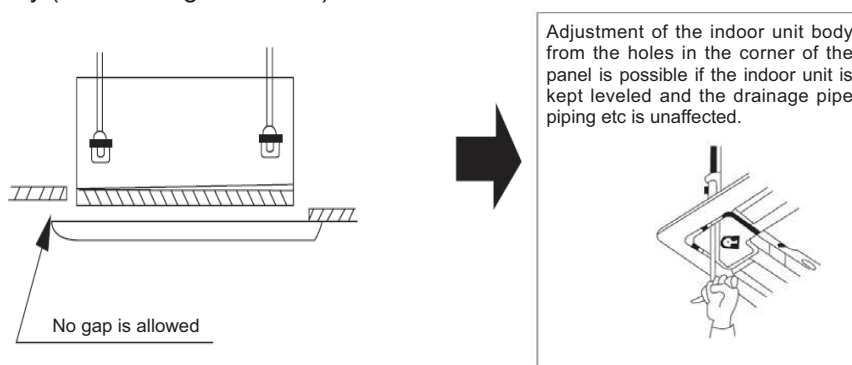

Figure 1-3-15
- ◆ If gap is still left between the ceiling and the panel after screwing the screws, readjust the height of the indoor unit body (Refer to Figure 1-3-15)